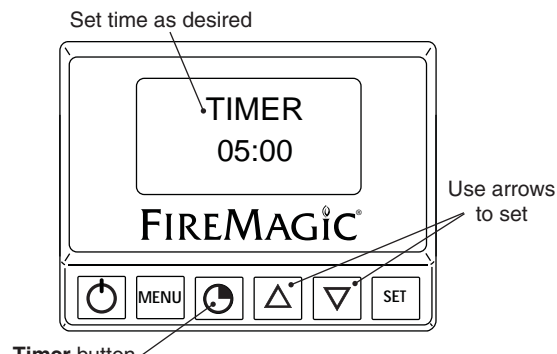

Fig. 25-4 Timer screen
1. Press the timer button. Use the arrows to set the desired amount of time (see Fig. 25-4).